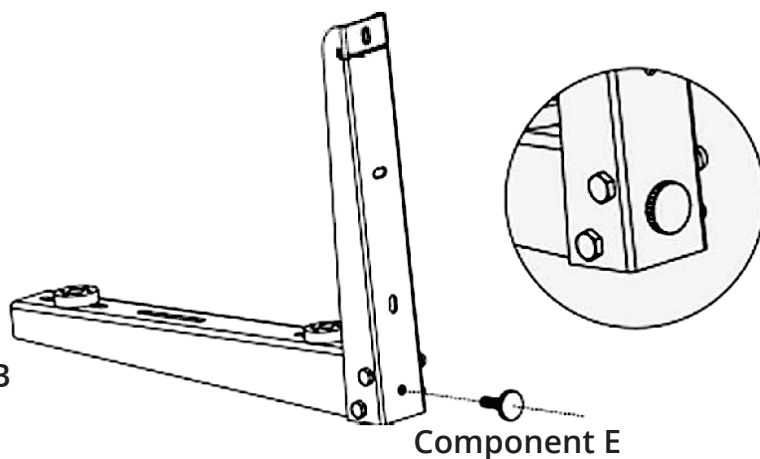

Fig. 2.2
3. Insert component E into the hole at base of the rear of component C. Please refer to **Fig 2.2**.